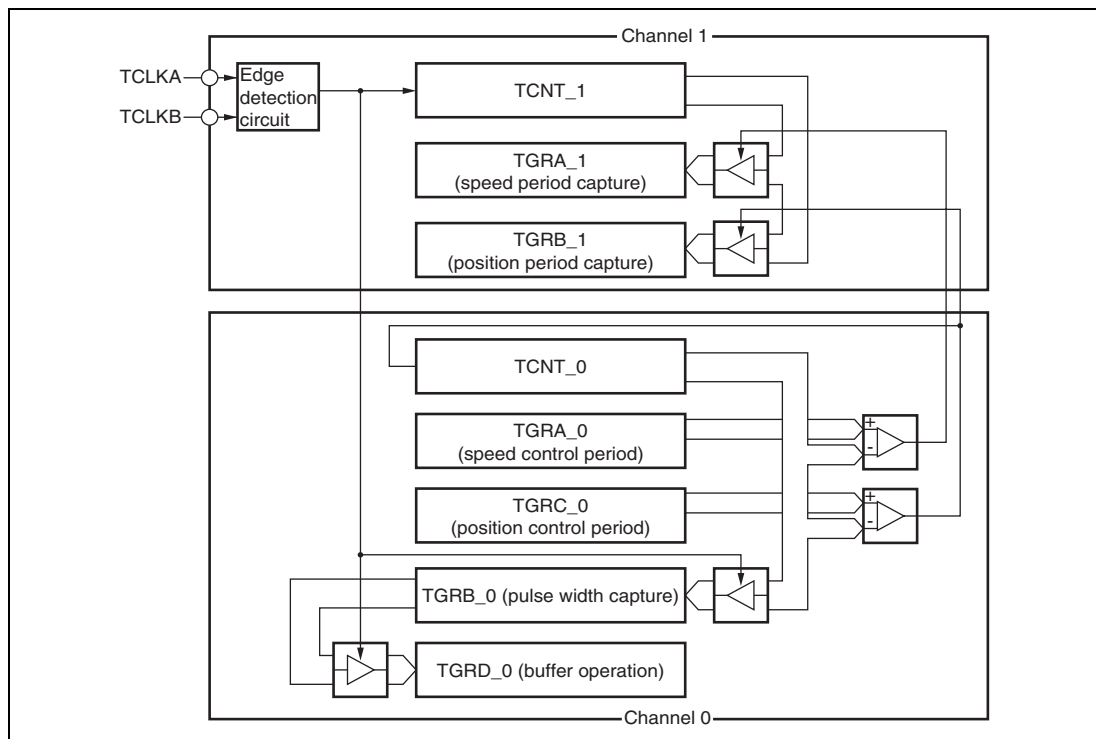

**Figure 11.29 Phase Counting Mode Application Example**
**Phase Counting Mode Application Example:** Figure 11.29 shows an example in which channel 1 is in phase counting mode, and channel 1 is coupled with channel 0 to input servo motor 2-phase encoder pulses in order to detect position or speed.